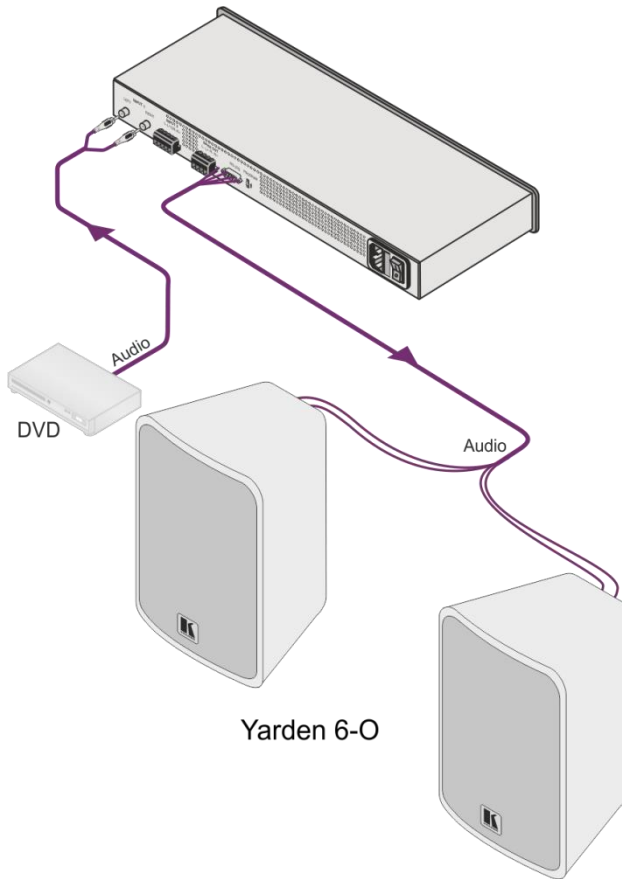

Figure 7: Connecting the Yarden 6-O
6. Repeat step 5 for the other speaker (see Figure 7).
You can connect the **Yarden 6-O** speakers to an amplifier, for example the Kramer **905xI** Power Amplifier/Mixer, as illustrated in Figure 7: